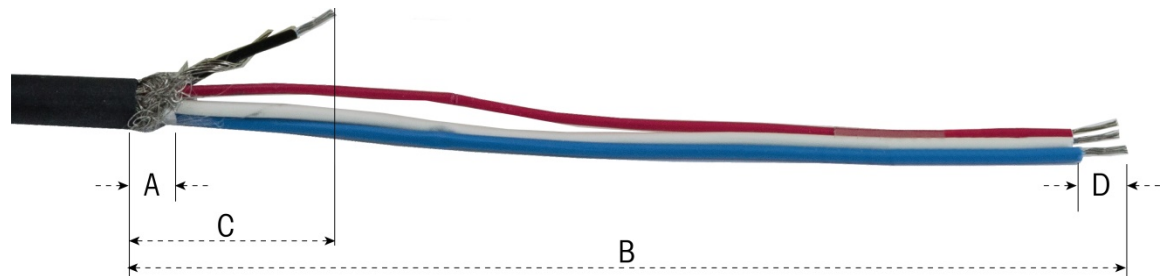

Figure A-75: PowerMount Cable Preparation – Panel
1. Cut and remove an appropriate length of the insulation jacket, the inner braided shield and insulation as shown in Figure A-75. The suggested lengths are listed in Table A-9.
2. Wrap the drain wire around the black wire. Crimp the provided ring terminal onto the end of this assembly as shown in Figure A-75.